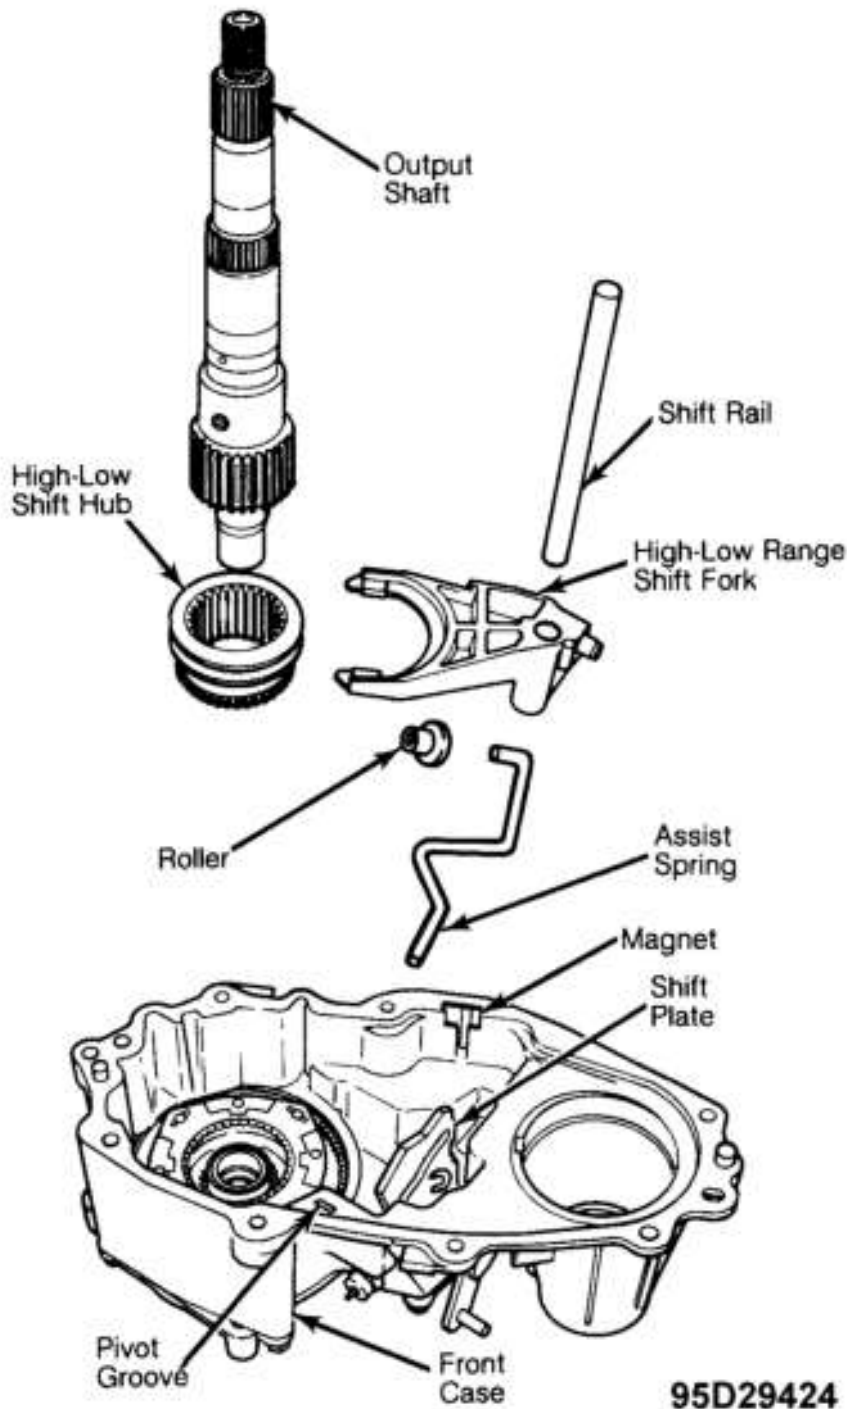

Fig. 14: High-Low Range Shift Assembly & Output Shaft (Manual Shift Model Shown; Electronic Shift Model Similar)
13. Slip high-low range shift fork out of inside track of shift cam. If necessary, remove external clip and roller bushing assembly from high-low range shift fork. Remove high-low shift hub from planetary gear set in front case. See **Fig. 14** .
12. On manual shift models only, position roller on 90 degree bend tang of assist spring. Larger diameter end of spring must be installed first. Install roller into assist spring roller track of shift cam while at same time locating center of spring in pivot groove in front case. See **Fig. 14** and **Fig. 16** . Push anchor end of assist spring behind locking post adjacent to ring gear face.
14. Slip high-low shift fork bushing into high-low roller track of shift cam and groove of high-low shift hub. See **Fig. 14** and **Fig. 16** . Install shift rail through high-low fork and make sure shift rail is seated in bore in front case.